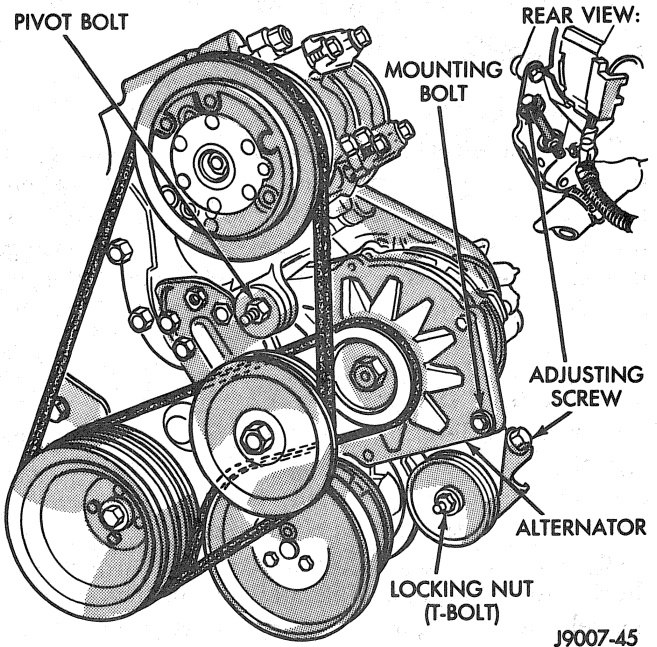

Fig. 6 Alternator Belt—2.5L Engine
- (1) Disconnect negative battery cable from battery.
- (2) Loosen alternator mounting bolt (Fig. 6).
- (3) Loosen adjusting screw locknut.
- (4) Loosen adjusting screw (Fig. 6).
- (5) Remove belt.